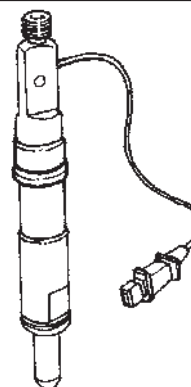

Fig. 8
**Needle Movement Sensor (1st cylinder instrumented injector)** : 1st cylinder injector is integrated with a needle movement sensor and it is used for finding the start of injection. **Fig. 8**